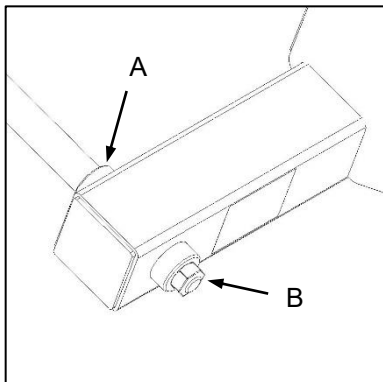
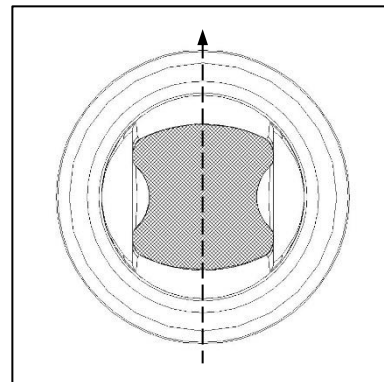

Fig. 3
Fig. 4
- ✔ Check bale spikes and mounting bushes (Fig. 3-A) for signs of distortion, cracking or breakages. In the event of any observed defect do NOT attempt a repair, but immediately replace the defective item, complete with retaining nut. Ensure that the bale spike is correctly orientated before tightening (Fig. 4).
- ✔ Ensure that the bale spike mounting nut (Fig. 3-B) is tightened to the specified torque.
- ⊖ Note that failure to observe this procedure may result in premature wear of the bale spike mounting bushes (Fig. 3-A), necessitating replacement of the complete welded assembly containing the mounting bushes.
- ✔ Gaan baalpinne en monteringsbusse (Fig. 3-A) na vir tekens van verwringing, krake of brekasie. Indien enige defek opgemerk word, MOET dit NIE probeer herstel nie, maar vervang die defekte item onmiddellik, asook die keermoer. Verseker dat die baalpin korrek georiënteer is voor dit vasgedraai word (Fig. 4).
- ✔ Verseker dat die baalpinmonteringsmoer (Fig. 3-B) volgens die gespesifiseerde wringkrag vasgedraai word.
- ⊖ Let daarop dat versuim om hierdie prosedure te volg, tot voortydige slyting van die baalpinmonteringsbusse (Fig. 3-A) kan lei, wat die vervanging van die hele gelaste samestelling wat die monterbusse bevat, noodsaak.